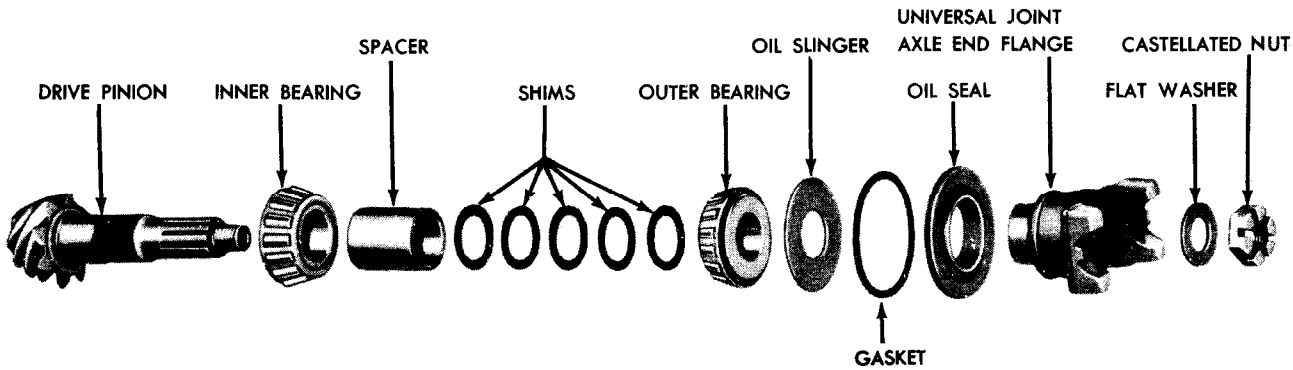

Figure 57 — Drive Pinion Assembly — Exploded View
(2) **DRIVE PINION ASSEMBLY** (fig. 57). Roller bearings that are pitted, corroded or discolored due to overheating must be replaced. Replace the drive pinion if it has worn or broken teeth. The differential ring gear and the drive pinion assembly are furnished only in matched sets and if either is found damaged, both must be replaced. Small nicks can be removed from the pinion gear with a fine stone.
c. Install Outer Bearing on Pinion (fig. 57). After the correct pinion setting has been obtained, install the spacer and the original amount of shims on the pinion. If the thickness of the original shims is unknown, install the shims totaling approximately 0.060 inch thick